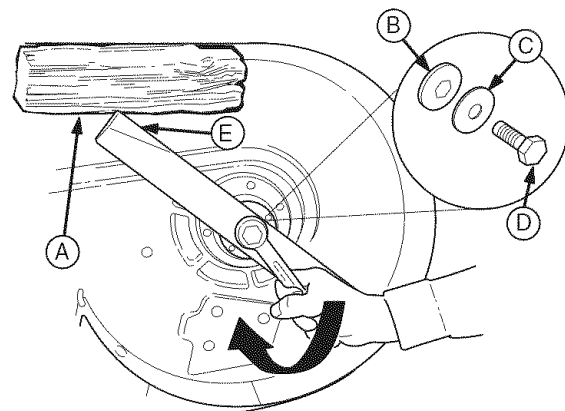

Figure 20. Blade Installation
3. Remove the capscrew (D, Figure 20), spring washer (C), hex washer (B), and blade.
7. Reinstall the blade with the lift wings (E, Figure 20) pointing up toward the mower deck as shown.
8. Reinstall the hex washer (B, Figure 20), spring washer (C) and capscrew (D). Use a wooden block (A) to prevent blade rotation while tightening the capscrew (D) to 45-55 ft. lbs. (61-75 N.m). Turn capscrew clockwise to tighten.